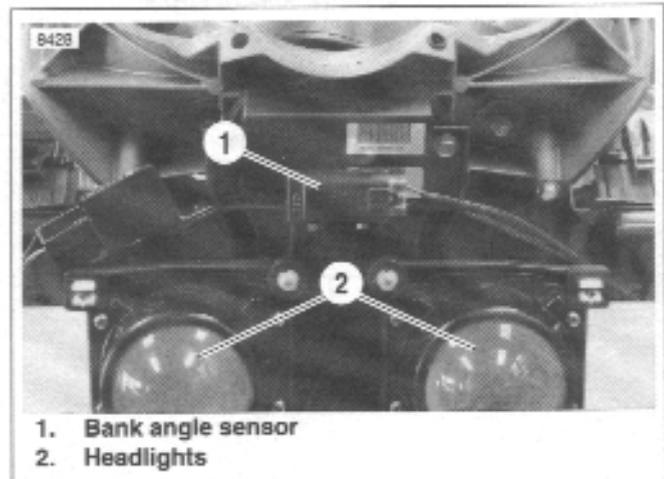

Figure 4-59. Bank Angle Sensor
See Figure 4-59. A Code 44 occurs when the bank angle sensor (1) voltage is outside the normal operating range of 0.25-4.8 volts. This may be caused by: